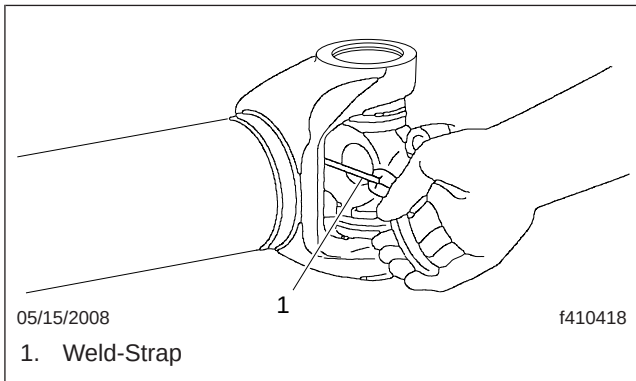
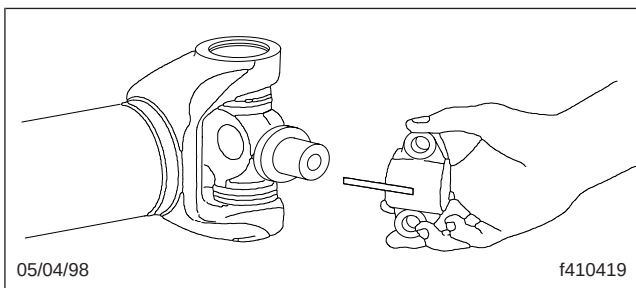

Fig. 5, Cutting the Weld-Strap
Fig. 6, Removing the Bearing Cups
4. Cut the weld strap (see Fig. 5) that retains the bearing cups, then remove both bearing cups. See Fig. 6.